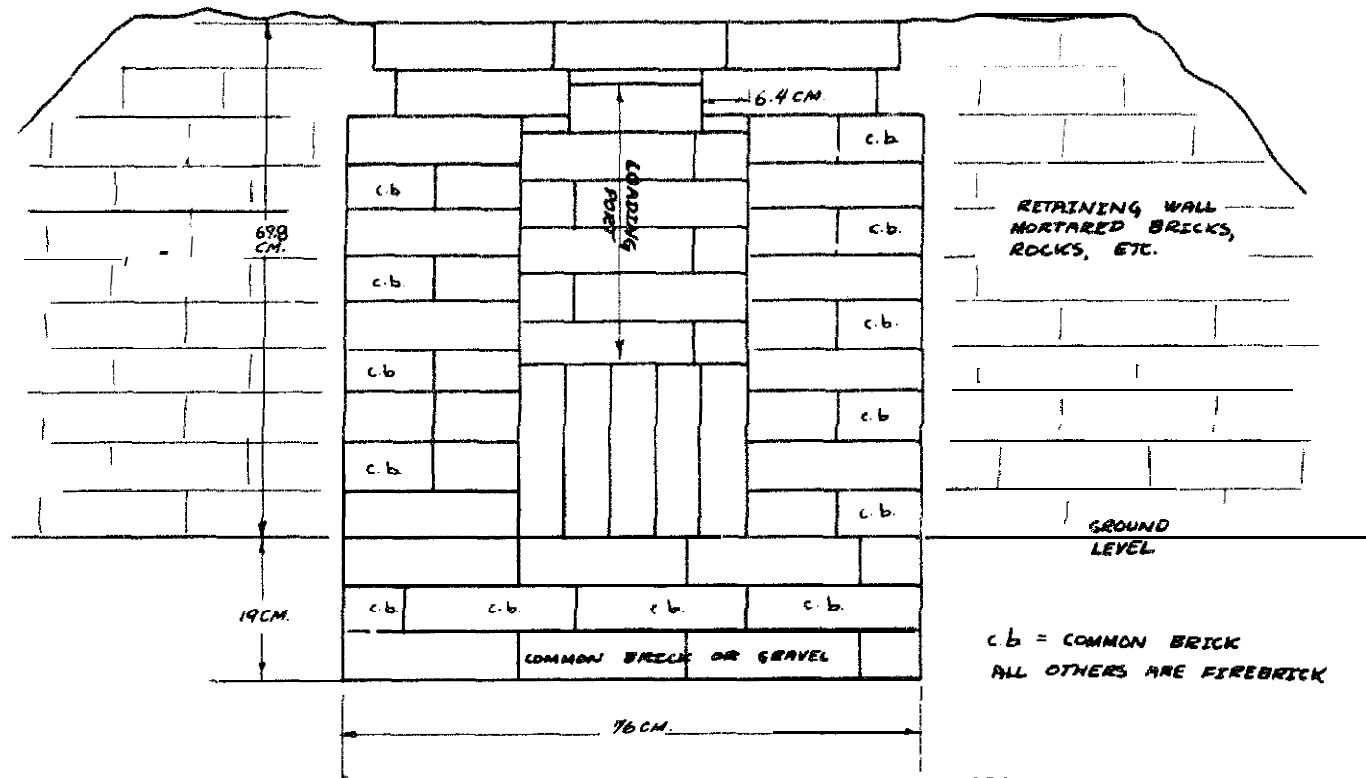

FIGURE 3 - RECTANGULAR KILN: CROSS-SECTION AA'
**When** the kiln is built, its sides should **be** insulated **with** dry loose sand and/or crushed brick (see Figures 3 and 4).
in building up the temporary door after the kiln is loaded (see Figures 3 and **4**), be sure to leave a peephole to watch the inside of the kiln.